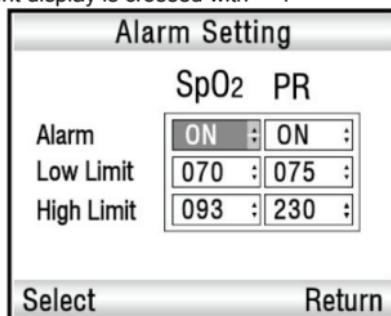

Fig.6-2
In the Alarm Setting screen, press the Up or Down button to move the cursor to the Alarm(SpO2) or Alarm(PR) sub-item, and press the Select button to it highlighted. Press the Up or Down button to select ON or OFF(refer to Fig.6-2). And then press the Select button to confirm your settings. If you set the SpO2 and/or PR alarm off, the corresponding limits on the measurement display is crossed with "x".